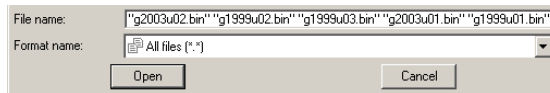

Figure 3-37. Open Window
3. Select the desired \*.bin file in the **Open** dialog box and click **Open** (Figure 3-37).